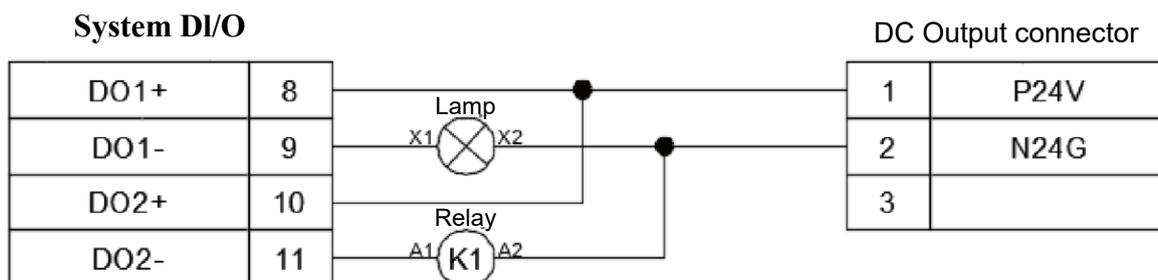

Figure 5.26 System DO controller voltage output NPN wiring
- Figure 5.26 shows the PNP wiring method.